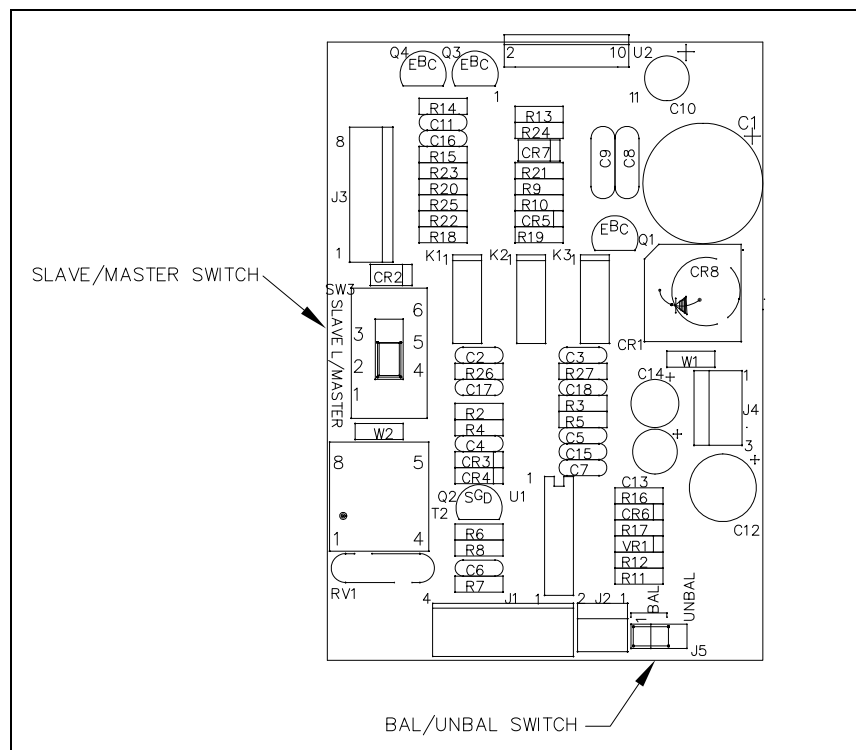

Figure 2. PCBA Outline Detail
4. If configuring the unit as a slave, slide the PCBA's mode switch (SW3) to the SLAVE position. See Figure 2.
5. If operating in an unbalanced cable system, reposition the PCBA's jumper P5/J5 from the BAL position to the UNBAL position. See Figure 2.